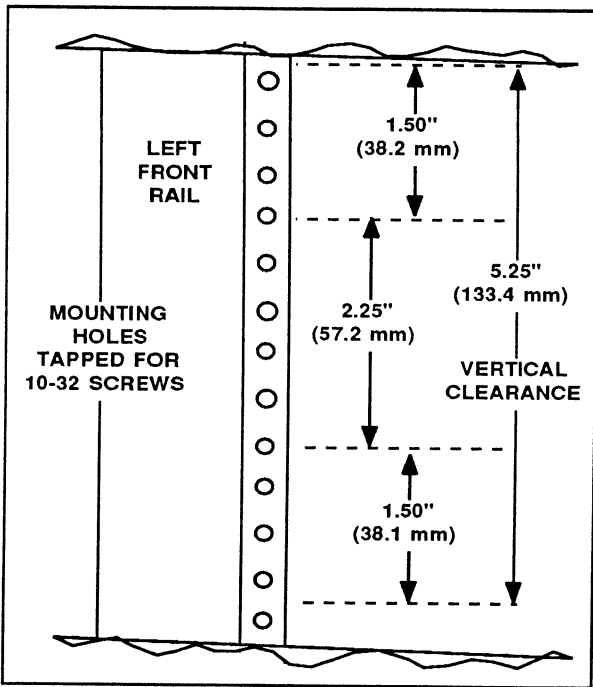

Figure 6-3. Locating mounting holes on front rails of equipment rack.
1. Select appropriate mounting holes in the front rails of the equipment rack, observing the clearance measurements shown in Figure 6-3.